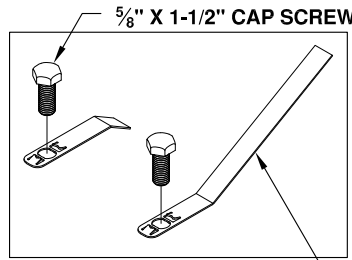

Figure C1: Bolt Guides
1. **Assemble bolt guides.** Assemble the bolt guides by threading a  $\frac{5}{8}$ " bolt onto each guide as shown in Figure C1 and C2. Tighten the bolt onto the guide so that the shoulder of the bolt head is flush with the surface of the bolt guide. This is designed to be a tight fit. A wrench may be needed to thread the bolts onto the bolt guides. The notches of the bolt guide must engage the corners of the bolt head so that the bolt is prevented from "backing off" of the guide. The notches of the bolt guide may have to be pried up if they were smashed down when the bolt was tightened down.